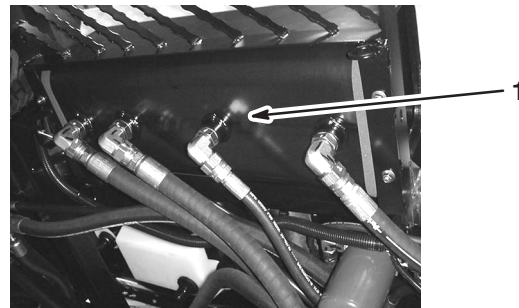

Figure 43
2. Clean the area around one hydraulic hose fitting on the bottom of the hydraulic oil tank (Fig. 43).
4. Remove the hose fitting from the tank, allowing the oil to drain into the pan (Fig. 43).